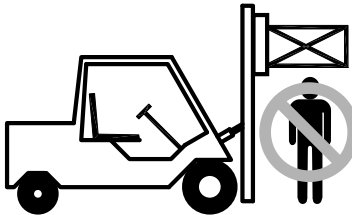

Figure 2-2,
- Never allow anyone under a load or under the carriage (Figure 2-2)